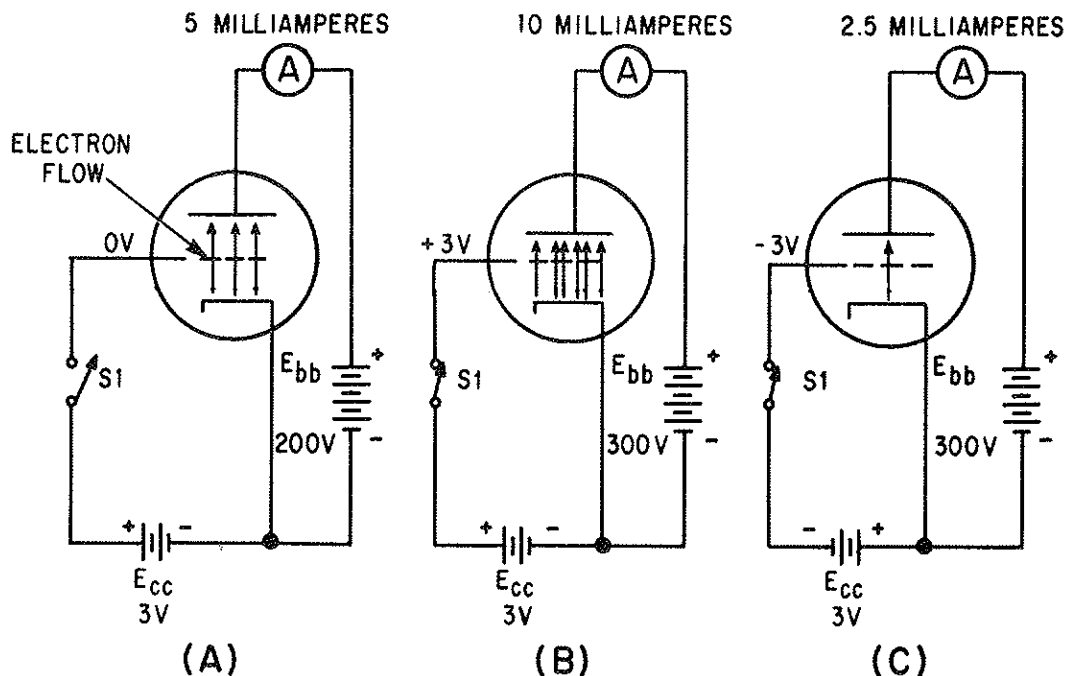

Figure 1-15.—De Forest's experiment.
In his next attempt, De Forest decided to change the element between the cathode and plate. Instead of a solid metal plate, he used a wire mesh. In this way electrons could flow from the cathode, **THROUGH THE WIRE MESH**, to the plate. This tube circuit is shown in figure 1-15. In view (A) you see De Forest's circuit with 0 volts applied to the third element, (today called a control grid or occasionally just the grid). Under these conditions, assume that the ammeter reads 5 milliamperes. With no voltage applied to the grid, the grid has little effect on the electron stream. For all practical purposes, the control grid is not there. Most electrons flow through the open mesh. The tube functions as a diode.
De Forest had certainly hit on something. Now the problem was to find out what happens when a negative potential was applied to the grid. This is shown in view (C) of figure 1-15. When De Forest applied -3 volts to the grid, he found that plate current was decreased to half of what it was when the grid had no voltage applied to it. The reason for this is found in the principle of "likes repel." The negatively charged grid simply repelled some of the electrons back toward the cathode. In this manner, the attractive effect of the plate was decreased, and less current flowed to the plate.
The circuit is identical to the one in figure 1-15 except that now a resistor (called a plate-load resistor, R_L) has been added to the plate circuit, and a voltmeter has been added to measure the voltage drop across R_L .
Let's take another look at the circuit in figure 1-15(B). We found that the positive charge on the grid caused more plate current to flow. However, when the grid becomes positive, it begins to act as if it were a small plate. It draws a few electrons from the space charge. These electrons flow from the cathode across the gap to the positive grid, and back through the external grid circuit to the cathode. This flow is known as grid current. In some tube applications, grid current is desired. In others it is relatively harmless, while in some, grid current causes problems and must be eliminated.